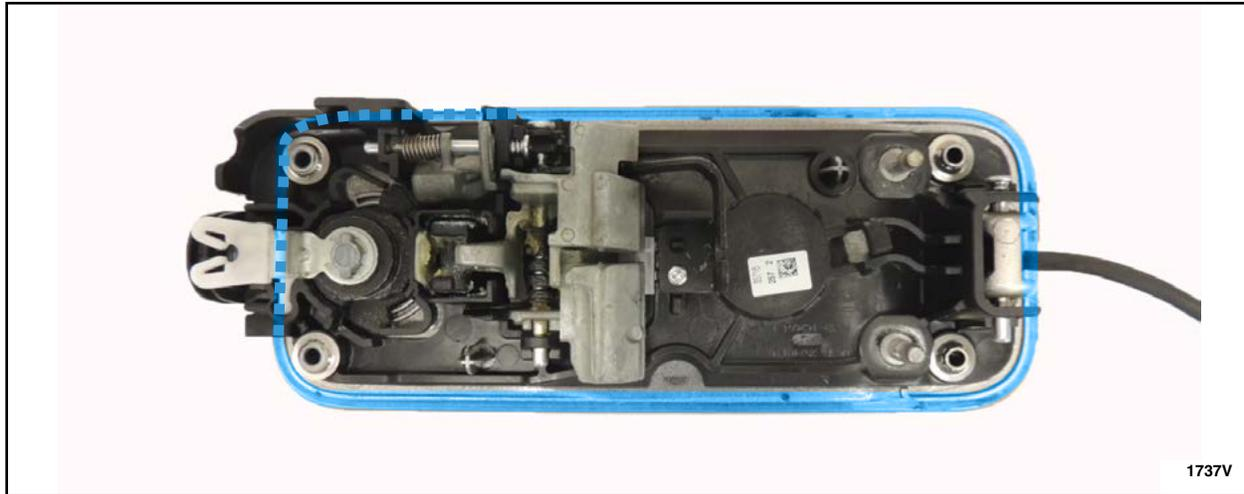

FIGURE 22
27. If a foam gasket is present around the perimeter of the exterior door handle, thoroughly remove the foam gasket. Using a clean shop towel and isopropyl alcohol, clean the highlighted mating surface area of the exterior front door handle. See Figure 22.